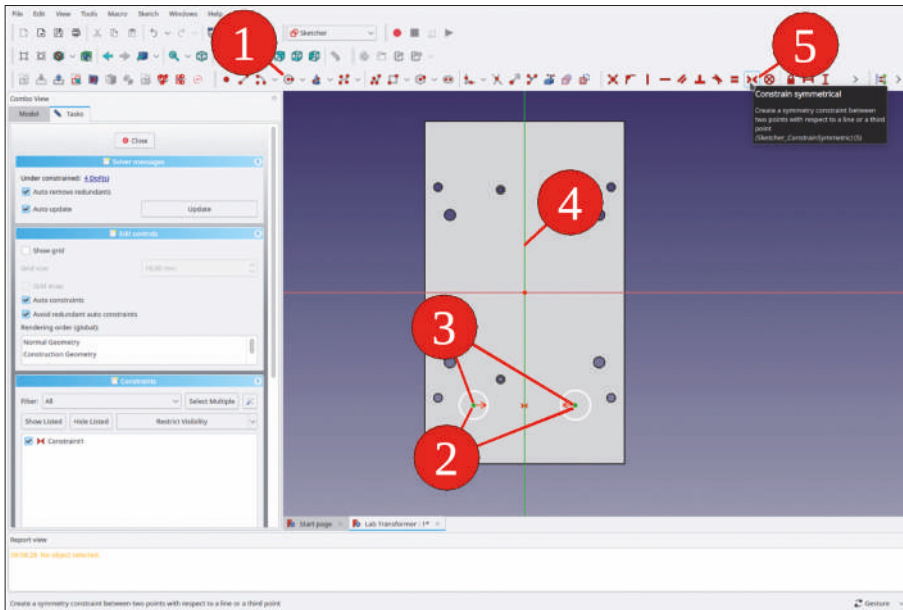

Figure 9-97
17. Draw two circles, approximately where the vent holes are expected. Mark the two centers of the circles and the Y-axis. Then, click the 'Constrain symmetrical' tool button (Figure 9-97).